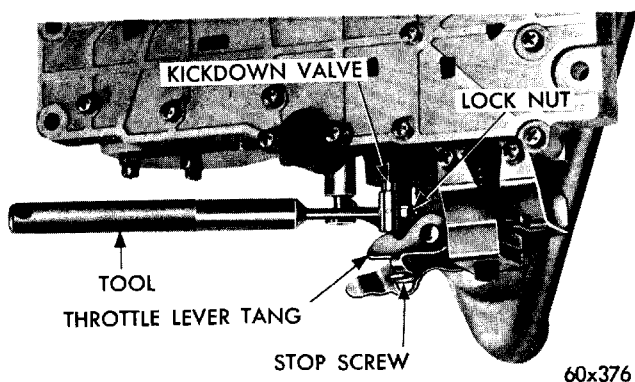

Fig. 17—Throttle Pressure Adjustment
- (1) Remove valve body assembly from the transmission to perform the adjustment. Refer to Paragraph 25.
- (2) Loosen throttle lever stop screw lock nut and back off screw approximately five turns (Fig. 17).
- (3) Insert gauge pin of Tool C-3763 between the throttle lever cam and the kickdown valve.
- (4) By pushing in on the tool, compress the kickdown valve against its spring so the throttle valve is completely bottomed inside the valve body.
- (5) As force is being exerted to compress the spring, tighten throttle lever stop screw finger tight against the